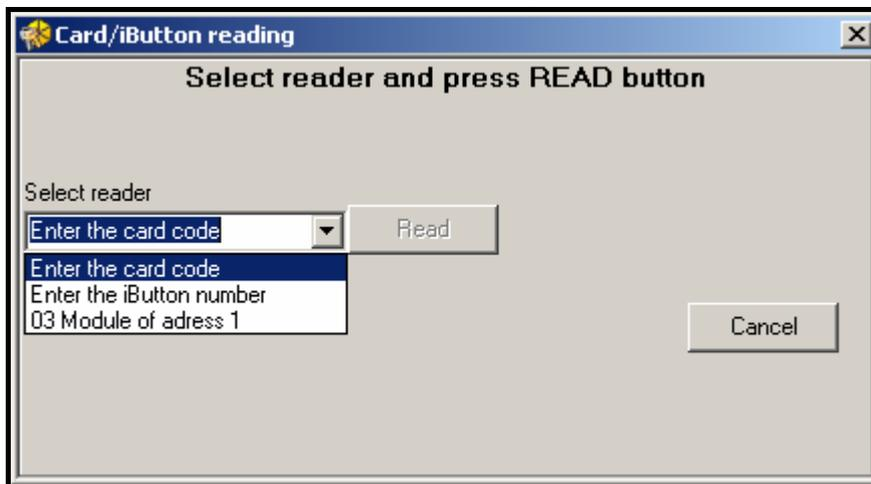

Fig. 27. Window for adding card / iButton to the user.
- 8. If the user is also to use the card / iButton, click with your mouse on the ADD button. The CARD / IBUTTON READING window will open (see Fig. 27).